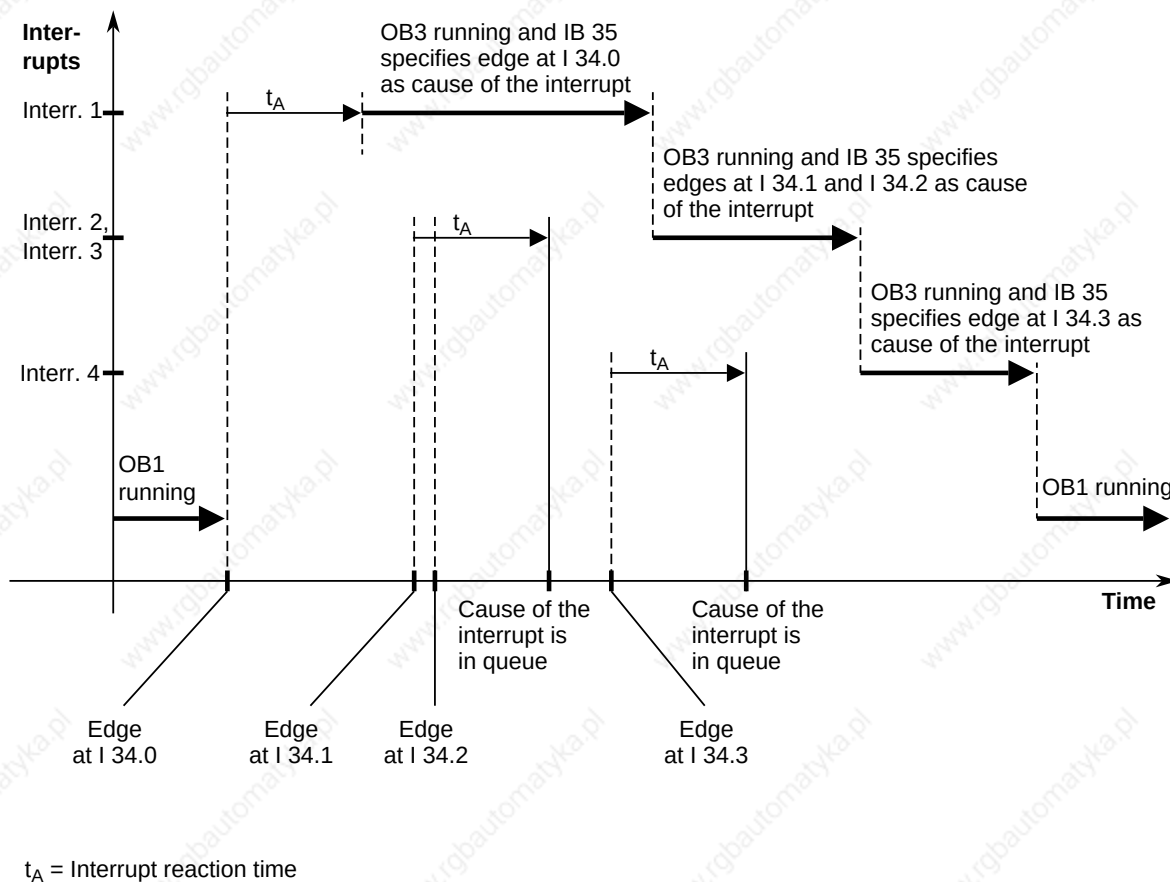

**Figure 10-1. Sequence of Interrupts Requiring Entries to be Made in the Queue**
**Example of Interrupt Priorities:** The cyclic program (OB1) is being processed in the S5-95U. An interrupt (signal edges) occurs at each of the inputs I 34.0 to 34.3. The sequence of the interrupts is shown in Figure 10-1.